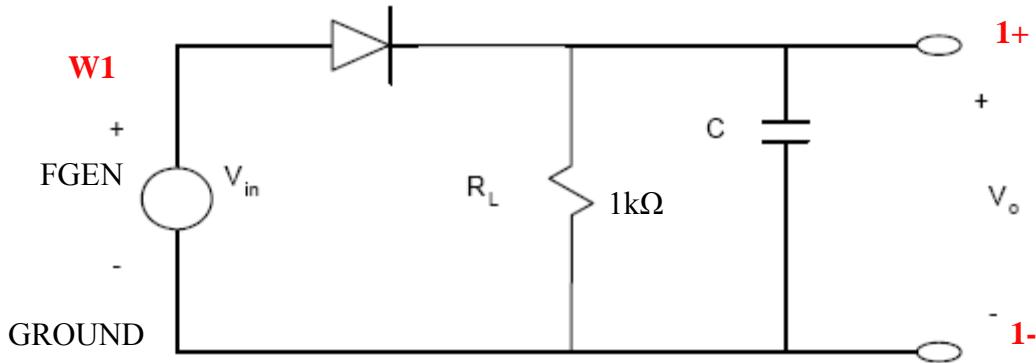
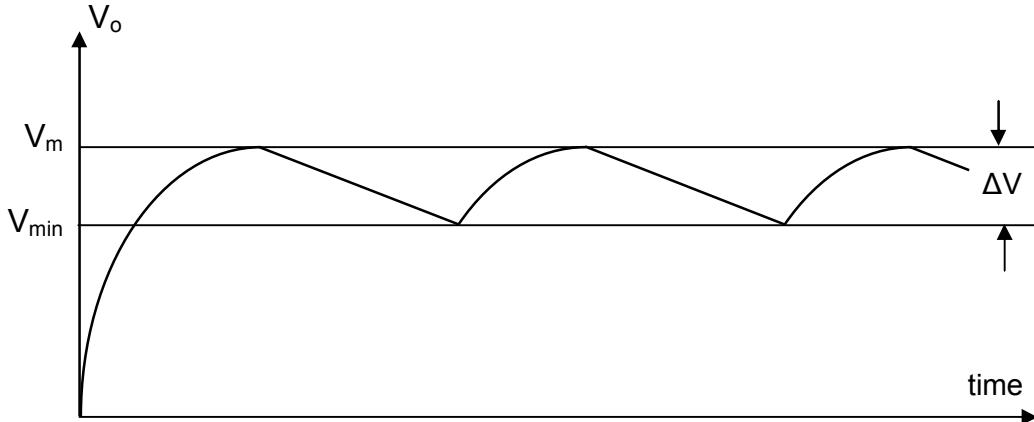

Figure 2.3: Rectifier circuit with an RC smoothing filter
Figure 2.4: Output wave shape from a full-wave filtered rectifier.
You should simulate the circuits shown in Figures 2.3 and 2.5 with the different resistor and capacitor values that you will use in the experiment. You should be prepared to compare your simulations with your measurements after you have built your circuits.
A popular smoothing filter is the capacitor-resistor filter, which consists of a single capacitor in parallel with the load resistor. Figure 2.3 shows such a filter connected to the output of a half-wave rectifier. The output wave shape of the filtered half-wave rectifier is similar to that shown in Figure 2.4, assuming that the time constant of the R_LC filter is comparable to the period of the input voltage.
Notice that the output wave shape still has ripple, but the ripple is now saw-tooth or triangular shaped, and its variation is much less than that of the unfiltered pulses. The difference between the maximum and minimum of the filtered voltage is known as the **Ripple Voltage (V_r)**. In Figure 2.4, this voltage is labeled ΔV . Thus, we have
For a half-wave rectifier, f_p is the frequency of the input voltage. For a full-wave rectifier, f_p is twice the frequency of the input voltage. The output of the filtered voltage for a full-wave rectifier is shown in Figure 2.4.
From Figure 2.4, we see that ΔV ($=V_r$) determines the amount of ripple in the output signal. From Equation (2.3), we see that for the ripple voltage V_r to be small, the $R_L C$ time constant must be large. In other words, the ripple can be reduced by increasing the discharging time constant $R_L C$. Hence, increasing either C or R_L will reduce the ripple voltage. It should be noted that the resistor R_L is usually inside a commercial power supply and any external load connected to the power supply is in parallel with R_L and acts both to lower the total load resistance and to increase the ripple. This is why an audible hum is often heard from power supplies when the external load resistance drops to a very low value.
$V_r(\text{rms})$ is the RMS value of the ripple voltage. The value of $V_r(\text{rms})$ can be calculated for various input wave shapes. For a complicated wave shape, such as that shown in Figure 2.4, the value of $V_r(\text{rms})$ is calculated as if the filtered, rectified wave were a triangular wave, for which
The average (dc) voltage will lie between V_m and V_{\min} . Therefore, for the filtered, triangular wave shape shown in Figure 2.4, a better value of V_{dc} would be given by
1. Build the circuit shown in Figure 2.3 using the NI-ELVIS function generator (FGEN) as the voltage source V_{in} . The connections are FGEN (pin #33) and GROUND (either pin 49 or 53) on the left side of the NI-ELVIS breadboard. **Leave the capacitor C out of the circuit for now.** When adding or removing components, ALWAYS "STOP" THE ELVIS INSTRUMENTS AND TURN OFF THE PROTOTYPING BOARD.